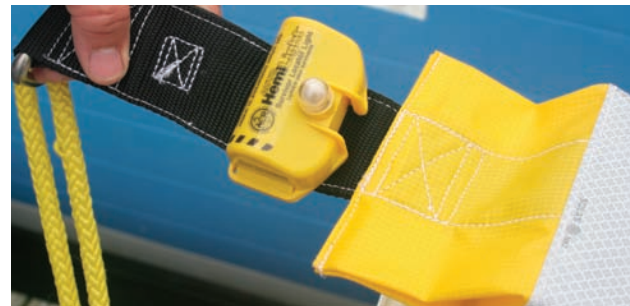

Fig. 19
- 5a. Pull on the tail of the hoisting line, making sure the line is wedged in the cam cleat to prevent the COB from falling back into the water if your hands slip or let go. Hoist the COB aboard (Fig. 19).